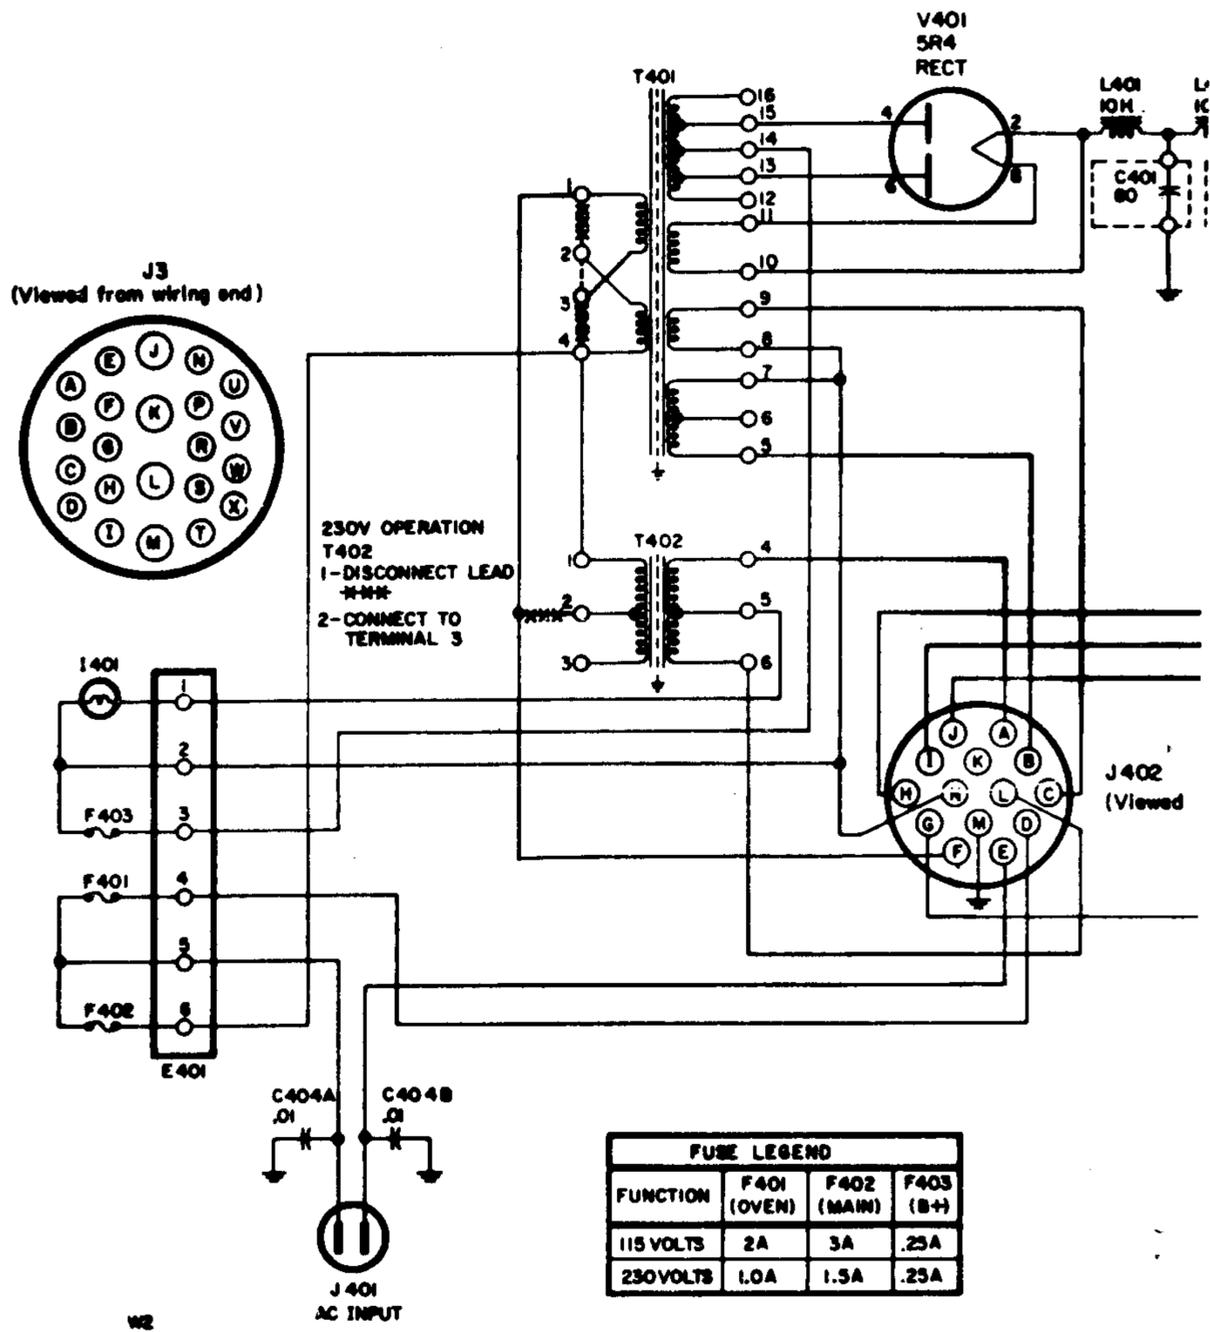

Figure 2
3. Neatly cut out figure 2 (attached to this change notice) and appropriately affix it to figure 6-11 in the manual. (EMN 12880)